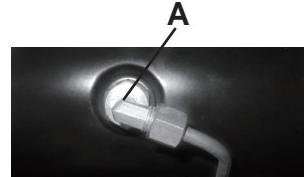

FIGURE 3
CHECK VALVE (A) FIG.3. When the air compressor is operating, the check valve is "open", allowing compressed air to enter the air tank. When the air compressor reaches "Cut-Out" pressure, the check valve "closes", allowing air pressure to remain inside the air tank.